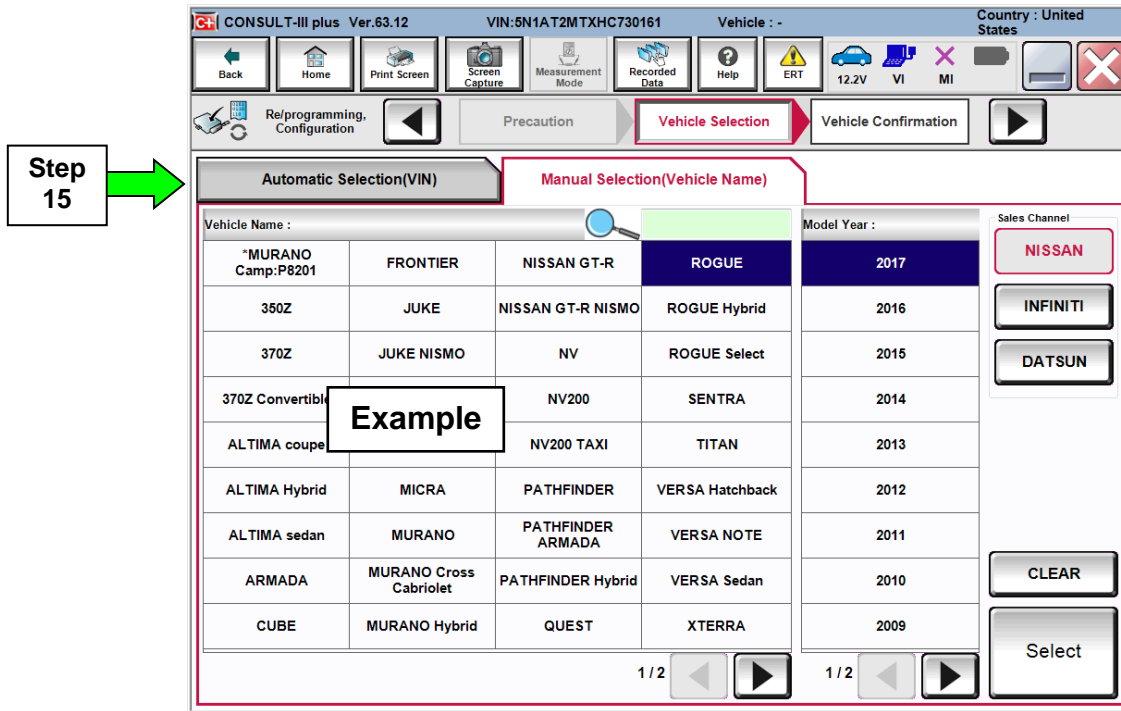

Figure 5
15. If the screen in Figure 5 displays, then select the **Automatic Selection(VIN)** tab .
- If the screen in Figure 5 does not display, skip to step 16.